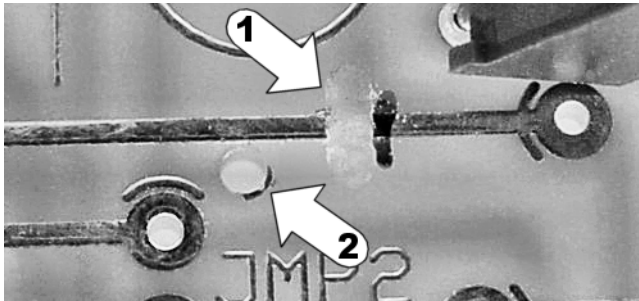

Figure 1-5. A combination milling/drilling machine can help correct errors on circuit boards by cutting traces ① and drilling new holes ②.
Another good use for the milling/drilling machine is to correct errors in a circuit board. In Figure 1-5, an end mill has carefully shaved off an errant copper trace ①, and then a drill has made a new hole ② for the replacement wire to be inserted. Was it difficult to position the end mill and drill in this example? No, each rotation of the handwheel gradually positioned the board exactly where I wanted it before cutting.